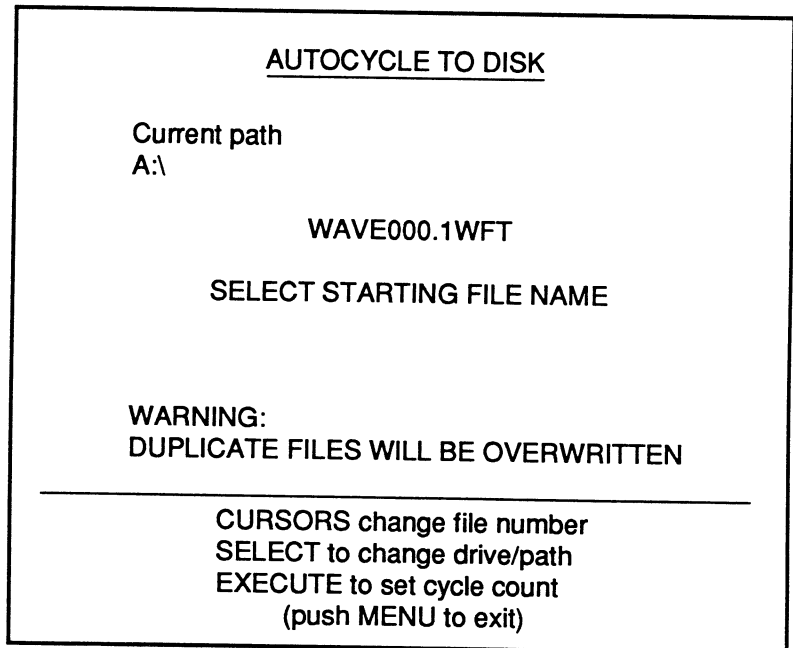

Figure 2 - Starting File Name selection screen
3. Press the Select button until the screen reads "CURSORS change file number" as shown in Figure 2 and then select the desired starting file name using the Up/Down Cursor buttons.